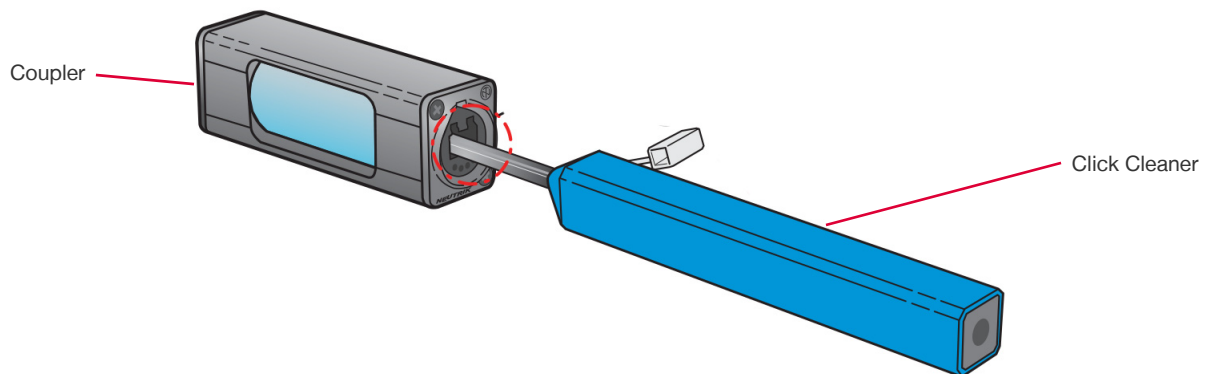

Figure 2-19: opticalCON Coupler Click Cleaning
- Step 5. Carefully align the IBC stick on a fiber ferrule hole. (Figure 2-19)
- Step 7. Repeat this process for remaining ferrules. Typically you will perform two (2) clicks per ferrule hole.